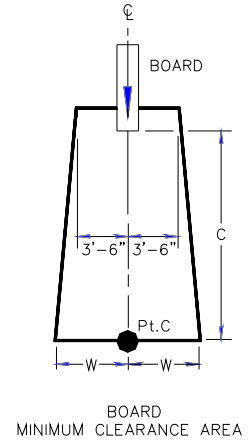

FIG. 31
- B. The minimum clearance area in front of a properly installed diving board on an inground swimming pool is a minimum distance of three feet six inches (3'-6") on either side of the board's centerline as shown in **FIG. 31.** Pt. C extends a minimum distance of "C" from the tip end of the board as shown in **FIG. 31.** The width distance "W" on either side of Pt. C is given in **CHART 1** and shown in **FIG. 31.**